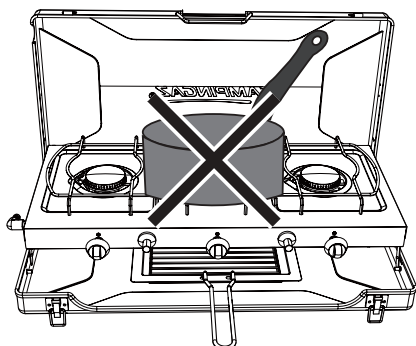

Fig.5
3. Snap down the lid arms on the bottom case (Fig. 5).